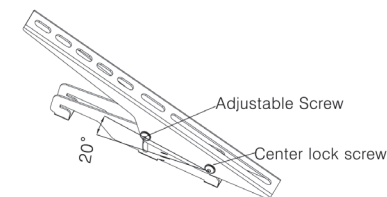

fig. 6
This product provides adjustable angle functions. Loosen the adjustable screw with 4mm allen wrench (E) and revolve pivot arm assembly to the desired position, then tighten the adjustable screws, as right, fig. 6.